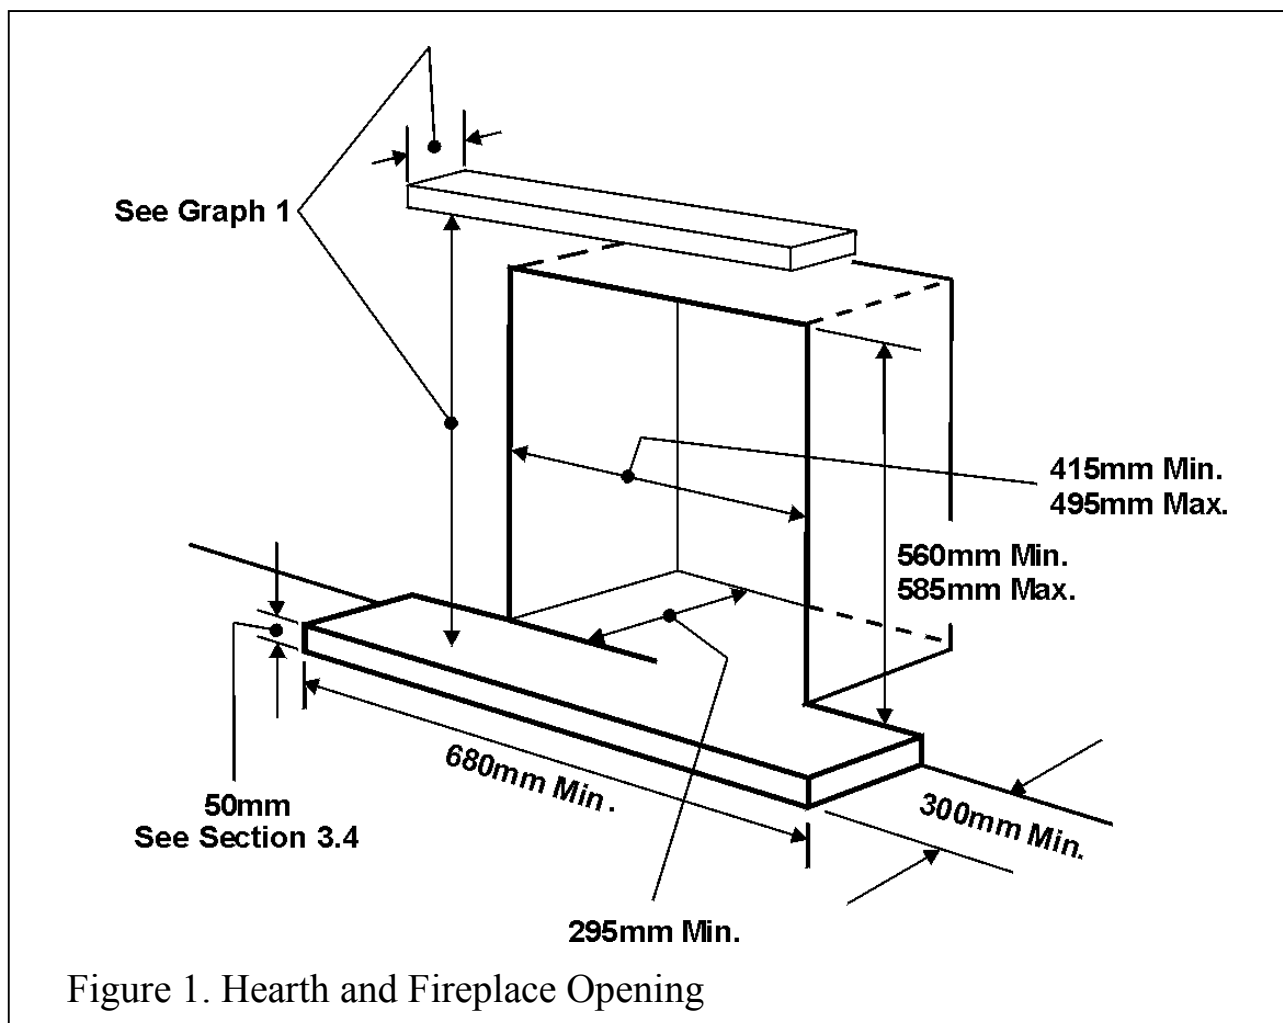

Figure 1. Hearth and Fireplace Opening
3.2 To a fireplace complete with surround and hearth as shown in figure 1 and complying with BS1251. The required fireplace, hearth, and clearance dimensions are shown in figure 1. (Remove any firebrick back and existing heating appliance).
3.4 The appliance must be mounted behind a non-combustible hearth (N.B. conglomerate marble hearths are considered as non-combustible). The appliance can be fitted to a minimum class “O” – 100°C surround. The hearth material must be at least 12mm thick. The periphery of the hearth (or fender) should be at least 50mm above floor level to discourage the placing of carpets or rugs over it (See figure 1).
- It is recommended that a hearth should be installed as in figure 1.